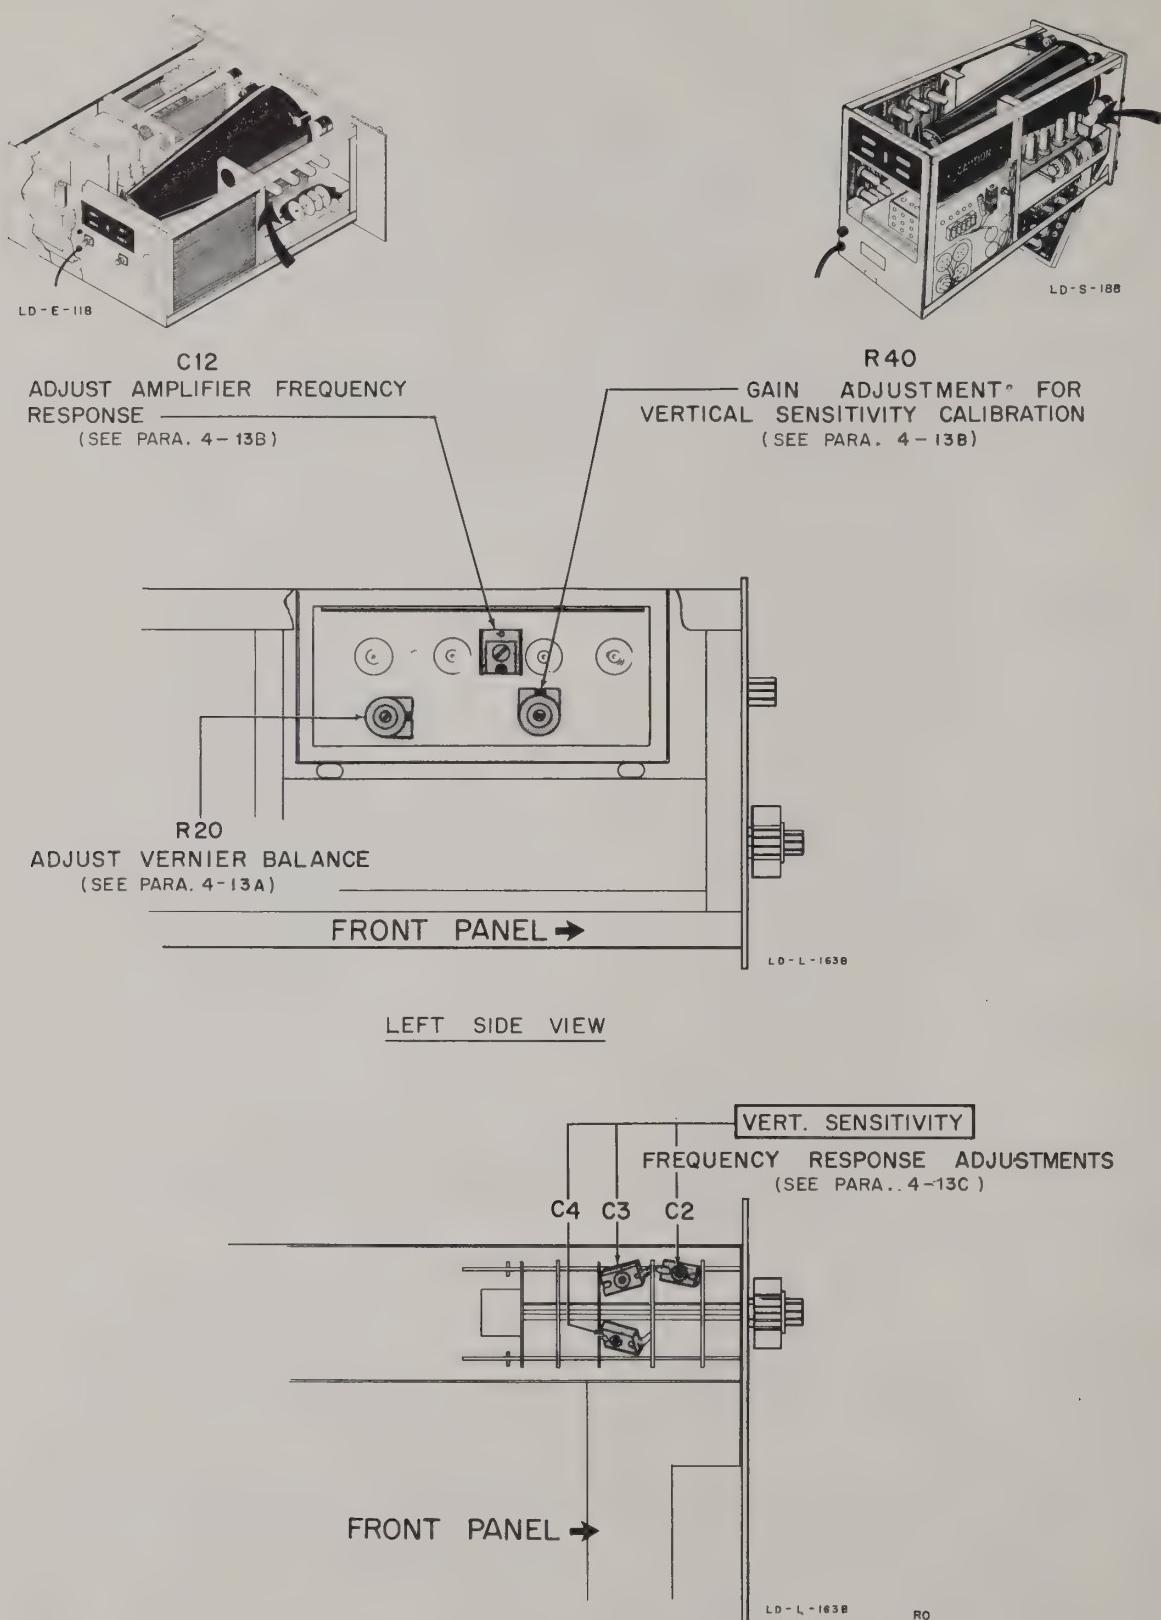
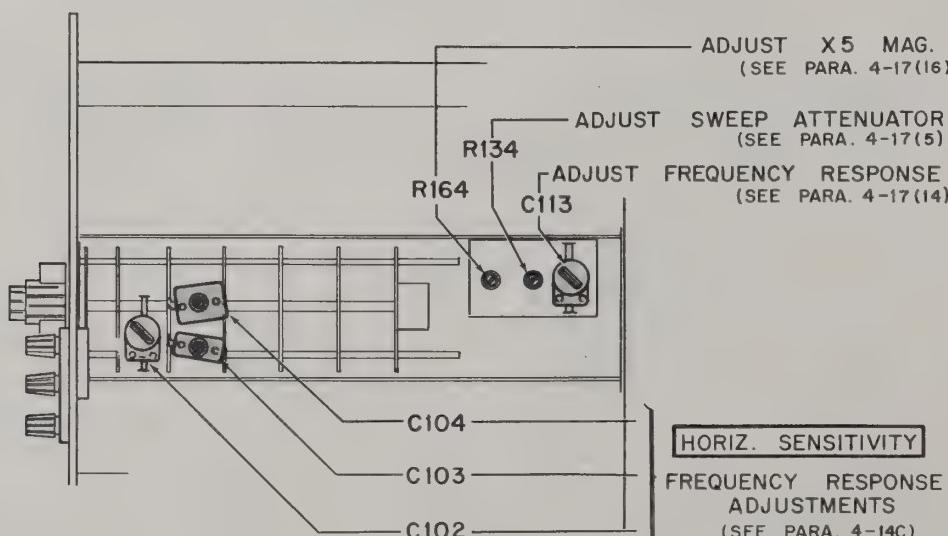

Figure 4-5. Vertical Amplifier Adjustment Location
Figure 4-6. Horizontal Amplifier Adjustment Locations
- 15) Check the gain calibration of the Vertical and Horizontal Amplifiers by setting the VERTICAL and HORIZONTAL SENSITIVITY selectors to CAL, and if necessary, adjusting R40 (Figure 4-5) to obtain 6 cm vertical deflection and R144 (Figure 4-6) to obtain 6 cm horizontal deflection on the trace; see paragraph 4-13B and 4-14B.
- Adjust R40 (see Figure 4-5) to obtain exactly 6 centimeters deflection.
The following adjustments are located in the vicinity of the Vertical Amplifier or the VERT. SENSITIVITY switch as shown in Figure 4-5.
To adjust VERNIER balance, allow the instrument to warm up 15 minutes and adjust Vertical balance as shown by Figure 2-2. Then refer to Figure 4-5 and proceed as follows:
To adjust the Vertical Amplifier gain and frequency response adjustments refer to Figure 4-5 and proceed as follows:
To adjust frequency response of the input attenuator refer to Figure 4-5 and proceed as follows:
To adjust the Horizontal Amplifier, refer to Figure 4-6 and proceed as follows:
To adjust the VERNIER balance allow the instrument to warm up thoroughly and adjust Horizontal balance as shown by Figure 2-3; then refer to Figure 4-6 and:
To adjust the gain and frequency response, refer to Figure 4-6 and proceed as follows:
To adjust the frequency response at the input attenuator, refer to Figure 4-6 and proceed as follows:
VOLTS/CM	ADJUST (see Fig. 4-6)
The opening of the pattern, if any, should not exceed a tenth of a centimeter. If necessary to correct phase difference, adjust C114 for closure of the pattern (Figure 4-6).
To adjust the Sawtooth Generator and Sweep Amplifier refer to Figures 4-6 and 4-7 and proceed as follows:
- 5) Adjust R134, Sweep Attenuator, (Figure 4-6) and HORIZ. POS. for approximately 1 time marker/cm. This is a rather coarse adjustment. Set it as close as is practical. Then make the final adjustment with R261.
14) Adjust C113 near the HORIZ. SENSITIVITY switch, and C116 and C118 on the Horizontal Amplifier board (Figures 4-6 and 4-7), for best square wave presentation. Remove the wire between V206 pin 1 and the Vertical INPUT.